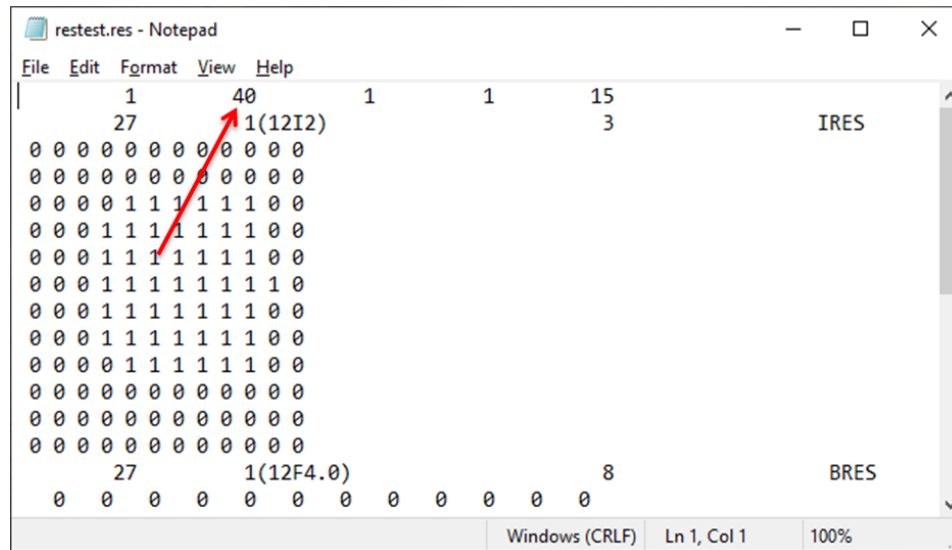

Figure 4 RES Package text file
8. Change the space before the “0” value on the first line to a “4” so the value is now “40” (red arrow in Figure 4). To avoid an error, ensure that the “4” took the place of the space before the “0”.